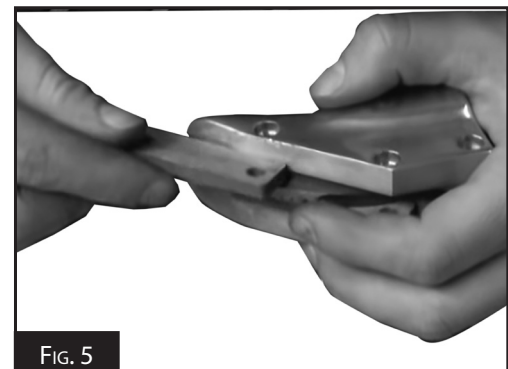

FIG. 5
5. Replace the sharpened or new blades making sure they are returned as they were removed. (Fig. 5)